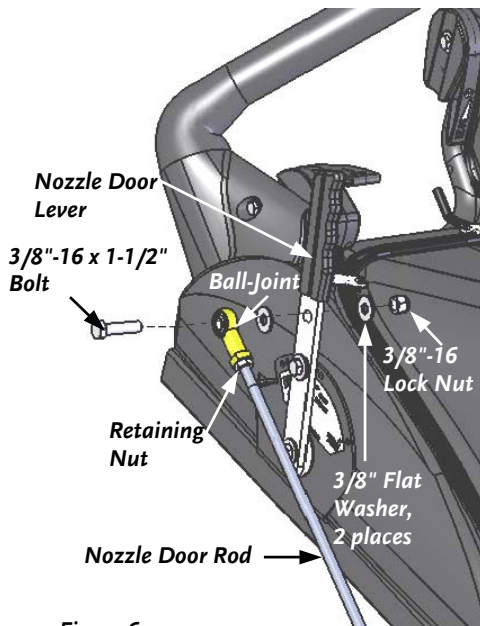

Figure 6
1. Locate the Nozzle Door Rod and two (2) Ball-Joints.
3. Insert a 3/8"-16 x 1-1/2" Bolt with a 3/8" Flat Washer through the Ball-Joint at the straight end of the Nozzle Door Rod (**Figure 6**).
4. Insert the Bolt from step 3 through the Mounting Hole in the Nozzle Door Lever (**Figure 6**).
5. Install a 3/8" Flat Washer followed by a 3/8"-16 Lock Nut on the Bolt from step 4 (**Figure 6**) and tighten with 9/16" Wrenches or Sockets.
**NOTE:** Do not over tighten. Tighten until snug and then back off 1/2 a turn. However, you may now tighten the Retaining Nuts (**Figures 6 & 7**) up against the Ball-Joints on the Nozzle Door Rod to prevent rotation.